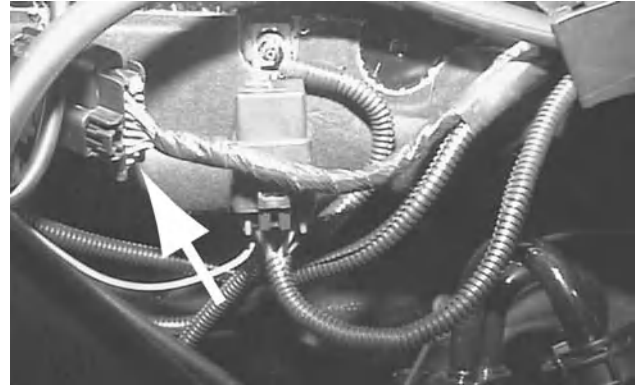

Fig. 3a
- a. Locate the Vistronic fan connector, located on the top side of the dash panel in the passenger side corner. (see figure 3a)